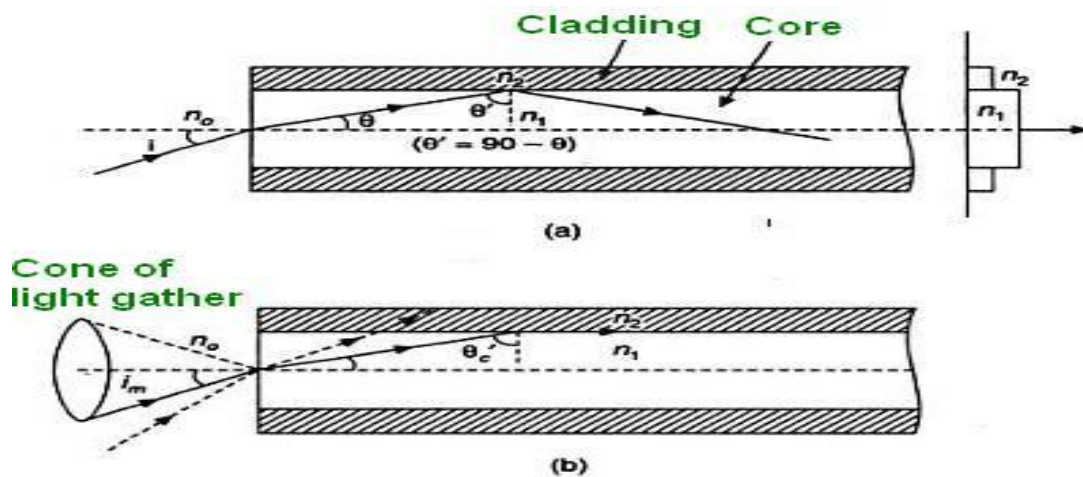

Figure 3.
Therefore, for light to be propagated within the core of optical fiber as guided wave, the angle of incidence at core-cladding interface should be greater than  $\theta'_c$ . As  $i$  increases,  $\theta$  increases and so  $\theta'$  decreases. Therefore, there is maximum value of angle of incidence beyond which, it does not propagate rather it is refracted in to cladding medium ( fig: 3(b)). This maximum value of  $i$  say  $i_m$  is called maximum angle of acceptance and  $n_0 \sin i_m$  is termed as the numerical aperture (NA). From equation(2),